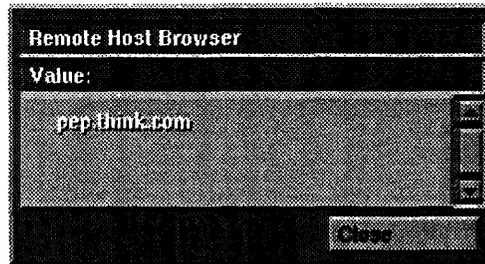

Figure 2. Remote Host Browser.
3. Select **Read Remote Module(s)** from the **Module Tools** menu. This brings up a Remote Host Browser containing a list of available hosts. Select a CM-5 partition manager (one that is named in `.avs-hosts`) from this list. In this example, we use `pep`, as shown in Figure 2.